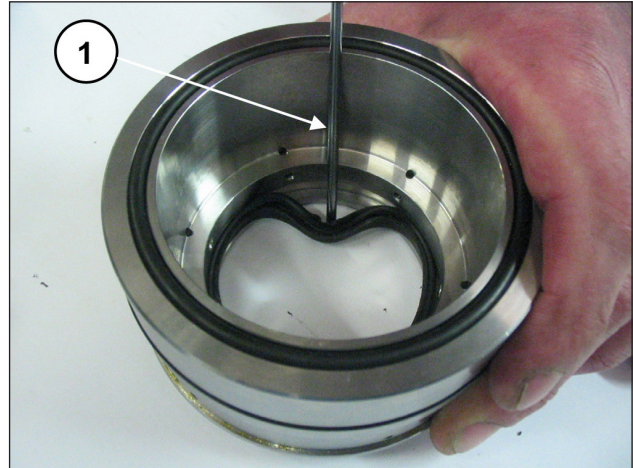

Fig. 193
To remove the low pressure seal, use a thickness gauge or another tool which will not damage the seal support housing (pos. ①, Fig. 193).